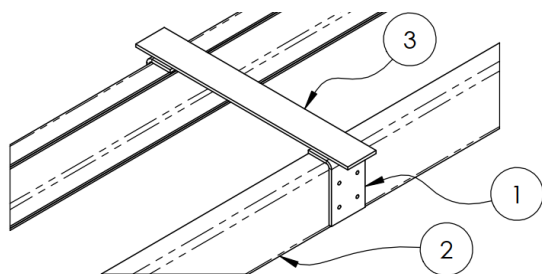

Figure 1.4
Position optional mounting brackets (1) on frame (2). Align parts for squareness and ensure clearance between truck cab and all other components (Figure 1.4)